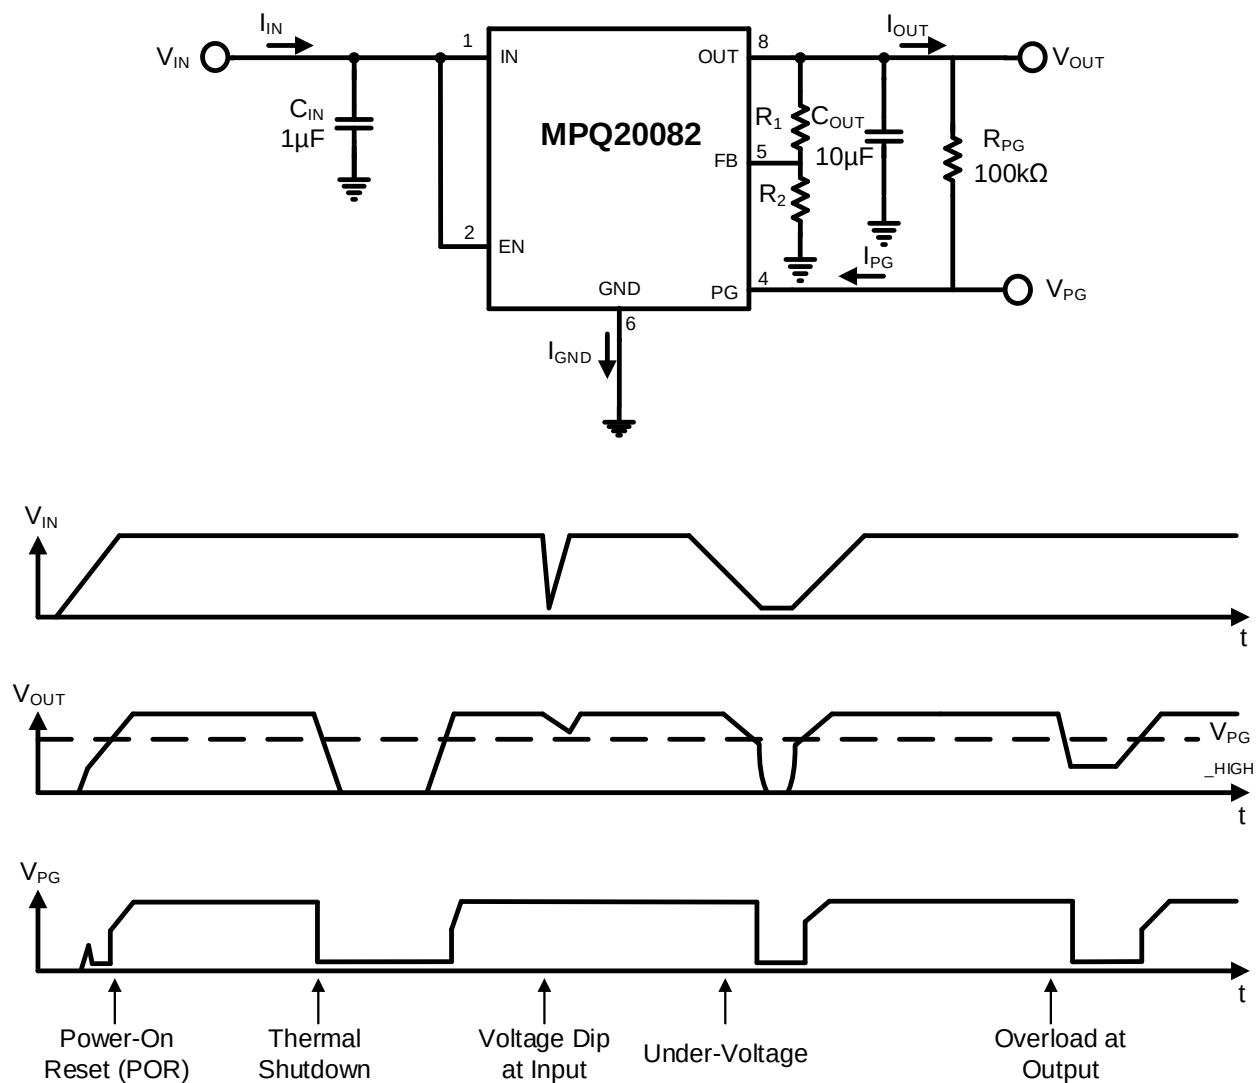

Figure 3: Power Good Timing
The regulator's output current (I_{OUT}) is limited internally, and the device is protected against short-circuit, overload, and over-temperature (OT) conditions (see Figure 3 on page 16).
Figure 3 on page 16 shows the PG timing.